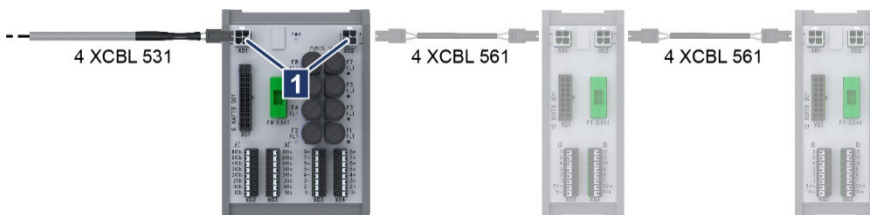

Fig. 6-8: Power supply connected to XAFTB
3. Plug the power supply cable 4 XCBL 531 into terminal **XD1** on terminal block **XAFTB** (→ Fig. 6-8/1).